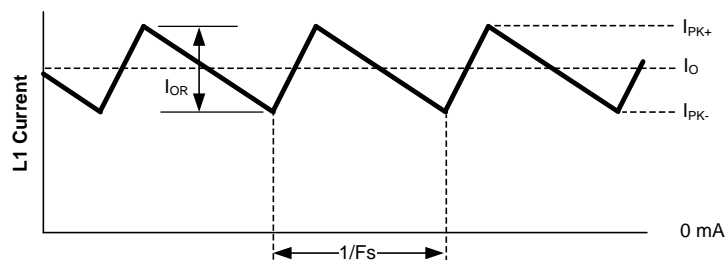

Figure 11. Inductor Current
**RCL**: Since it is obvious that the lower peak of the inductor current waveform does not exceed 1.0A at maximum load current (see Figure 11), it is not necessary to increase the current limit threshold. Therefore RCL is not needed for this exercise. For applications where the lower peak exceeds 1.0A, see INCREASING THE CURRENT LIMIT THRESHOLD.
**C1**: This capacitor limits the ripple voltage at VIN resulting from the source impedance of the supply feeding this circuit, and the on/off nature of the switch current into VIN. At maximum load current, when the buck switch turns on, the current into VIN steps up from zero to the lower peak of the inductor current waveform ( $I_{PK-}$  in Figure 11), ramps up to the peak value ( $I_{PK+}$ ), then drops to zero at turn-off. The average current into VIN during this on-time is the load current. For a worst case calculation, C1 must supply this average current during the maximum on-time. The maximum on-time is calculated at  $V_{IN} = 6V$  using Equation 5, with a 25% tolerance added:
The current limit threshold is nominally 1.25A, with a minimum value of 1.0A. If, at maximum load current, the lower peak of the inductor current ( $I_{PK.in}$  in Figure 11) exceeds 1.0A, resistor  $R_{CL}$  must be added between  $S_{GND}$  and  $I_{SEN}$  to increase the current limit threshold to equal or exceed that lower peak current. This resistor diverts some of the recirculating current from the internal sense resistor so that a higher current level is needed to switch the internal current limit comparator.  $I_{PK.in}$  is calculated from: